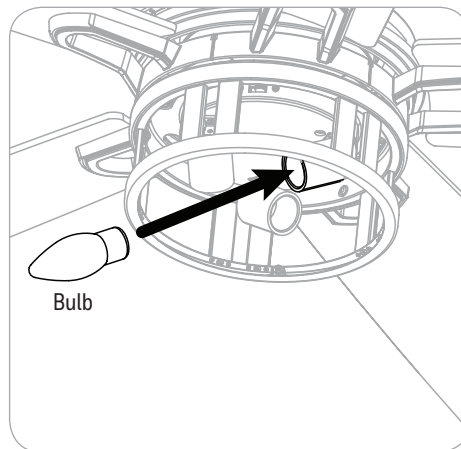

Figure 5.8
- Install the E26-base B10 bulbs in the sockets of the light kit (Figure 5.8).